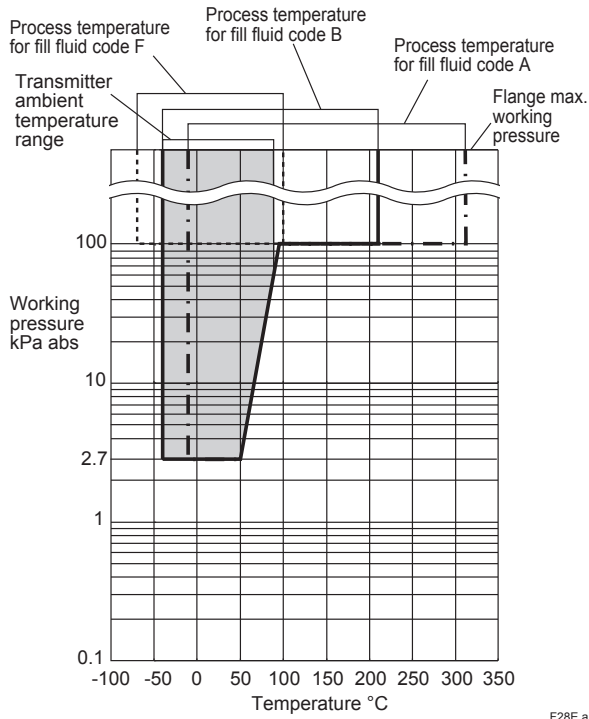

Figure 1e. Working Pressure and Process Temperature (Fill fluid: silicone oil for general and low temperature use)
- *1: See figure 1e and 1f 'Working Pressure and Process Temperature.'